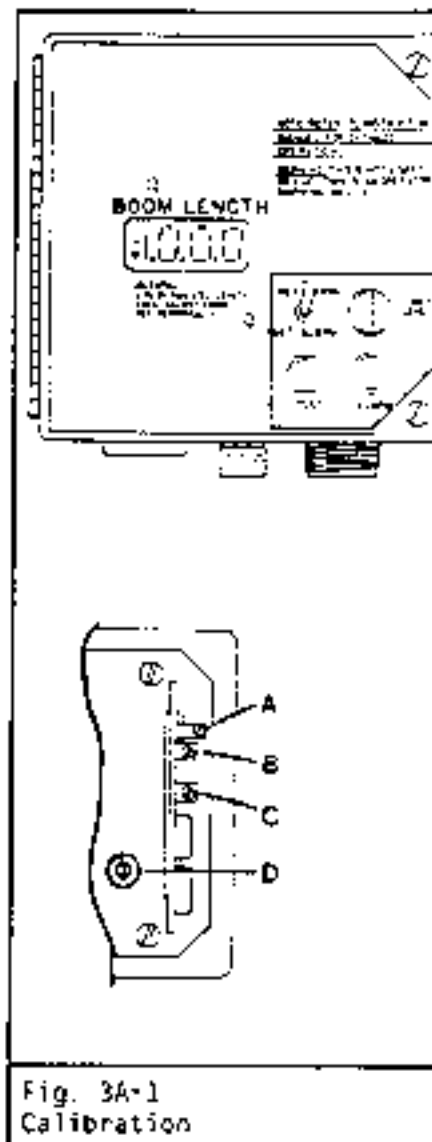

Fig. 3A-1
3. With boom fully retracted, adjust calibration potentiometer A (Refer to Fig. 3A-1) until the digital indicator displays the correct minimum boom length (minus sign should not be present).
other direction. Make adjustment for minimum boom length using the zeroing potentiometer D. Refer to Fig. 3A-1.
4. To adjust reading that appears when "Test" button is depressed, turn potentiometer B (Fig. 3A-1) while keeping button depressed. The test reading is normally set to read 100.0 ft. This number will change if calibration potentiometer A is changed. The "Test" readout is for checking function only and is not an accuracy check.
5. With boom fully extended, adjust span potentiometer C (Fig. 3A-1) until the digital indicator displays the correct maximum boom length.